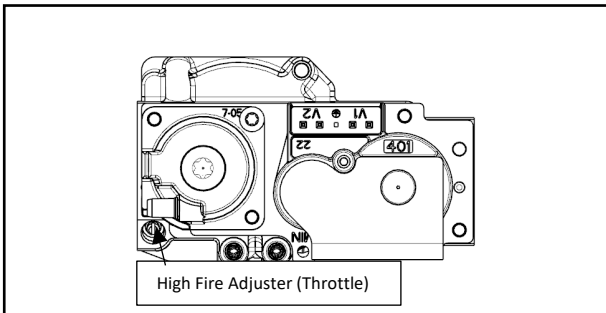

Fig .7
- Alter High Fire adjuster (throttle) (fig.7) in ¼ incremental steps until CO₂ is within specified tolerance (as per table 3).